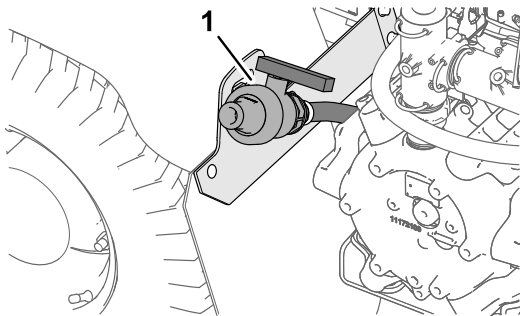

Figure 44
- Locate the tank-drain valve at the left, rear fender of the machine (Figure 44).